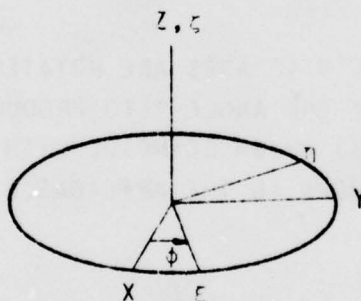

FIGURE 1. FIRST ROTATION
- (A) FIRST THE INITIAL SYSTEM OF AXES XYZ ARE ROTATED COUNTER-CLOCKWISE ABOUT THE Z AXIS BY AN ANGLE  $\phi$  (FIGURE 1). THE RESULTING COORDINATE SYSTEM IS LABELLED THE  $\xi\eta\zeta$  AXES.